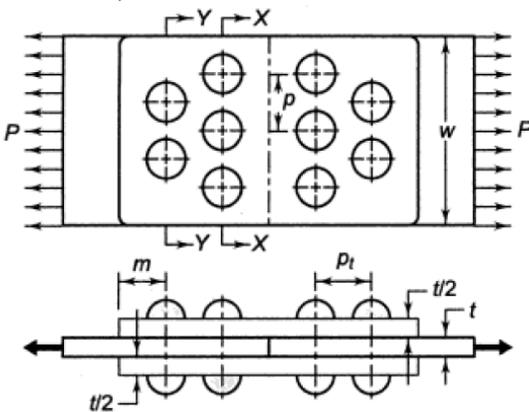

Figure.4a
4. a) Two flat plates subjected to a tensile force  $P$  are connected together by means of double strap butt joint as shown in the Figure.4a. The force  $P$  is 250 kN and the width of the plate is 200 mm. The rivets and plates are made of the same steel and the permissible stresses in tension, compression and shear are 70, 100 and 60  $\text{N/mm}^2$  respectively. Calculate: i) The diameter of the rivets, ii) The thickness of the plates., iii) The dimension of the seam, viz pitch, transverse pitch and margin. 8 M